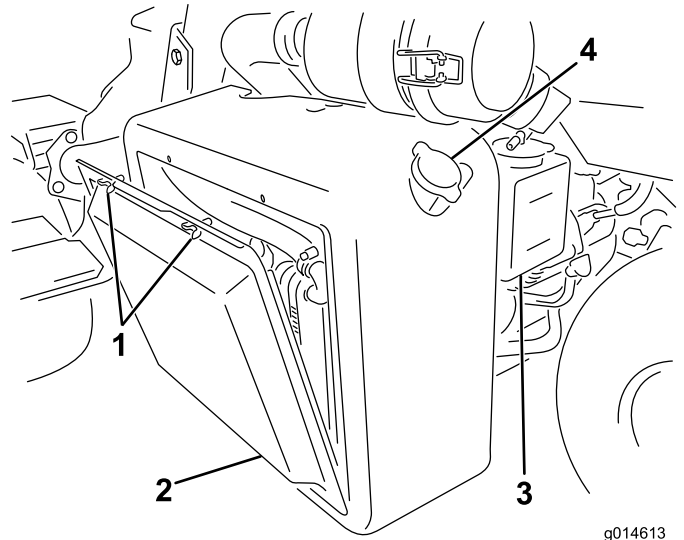

Figure 51
1. Remove the radiator screen (Figure 51).